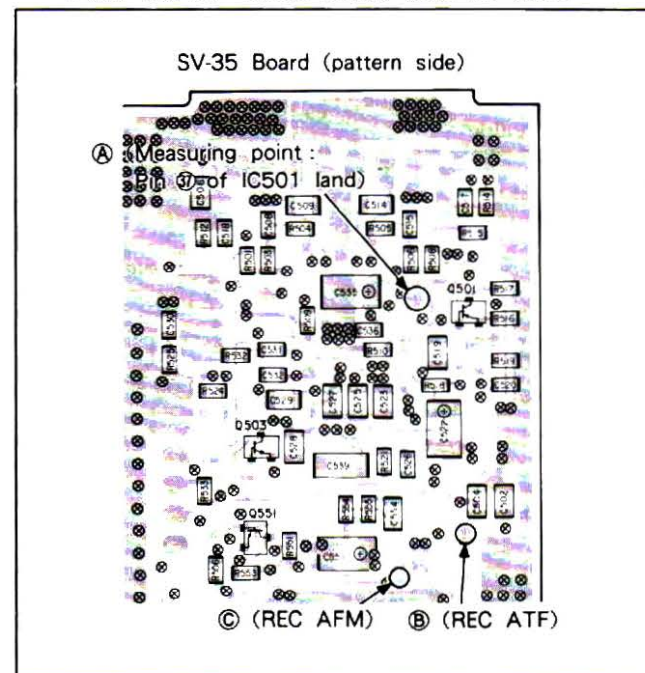

Fig. 8-22.
Measurement Point	Pin ② of IC501 (Fig. 8-22 ①)
- Terminal on the C219 side of RV503 (Fig. 8-22 ② : REC ATF) — GND
- Terminal on the C006 side of RV505 (Fig. 8-22 ③ : REC AFM) — GND
Measurement Point	Pin ⑦ of IC501(Fig. 8-22 ④)
- Terminal on the C219 side of RV503 (Fig. 8-22 ⑤ : REC ATF) — GND
Measurement Point	Pin ⑦ of IC501(Fig. 8-22 ㉞)
- Terminal on the C006 side of RV505 (Fig. 8-22 ㉞ : REC AFM) — GND